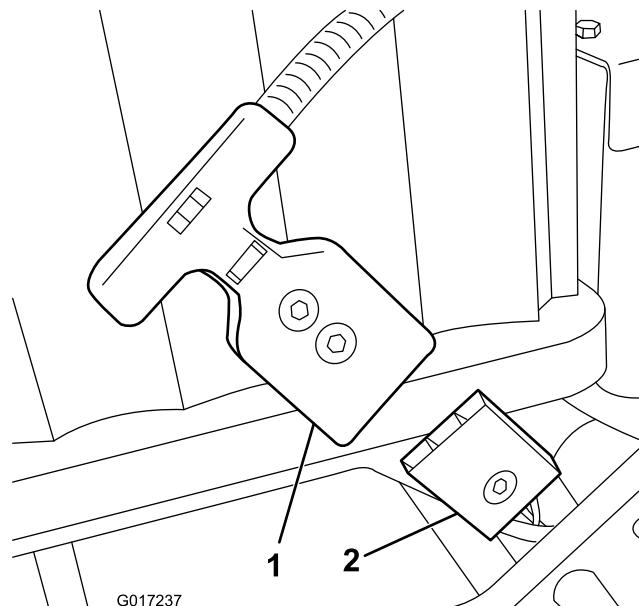

Figure 6
- 5. Pull the eFlex T-handle connector off the main battery power supply connector affixed to the battery tray (Figure 6).